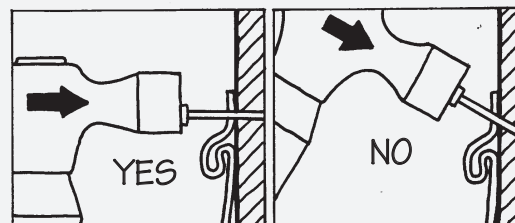

Figure 16.
- Drive fasteners straight and level to prevent distortion and buckling of the panel (Fig. 16).